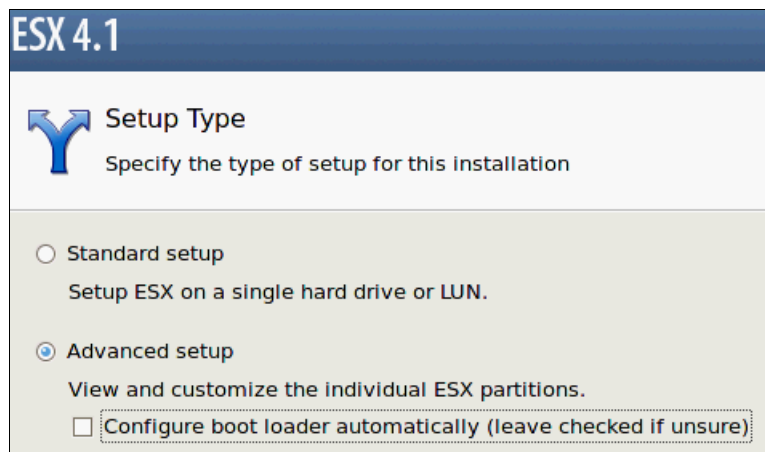

Figure 7-60 ESX installation Setup Type
- Proceed with ESX installation until you get to the Setup Type page, as shown in Figure 7-60. Click **Advanced setup**, clear **Configure bootloader settings automatically (leave checked if unsure)**, and click **Next**.